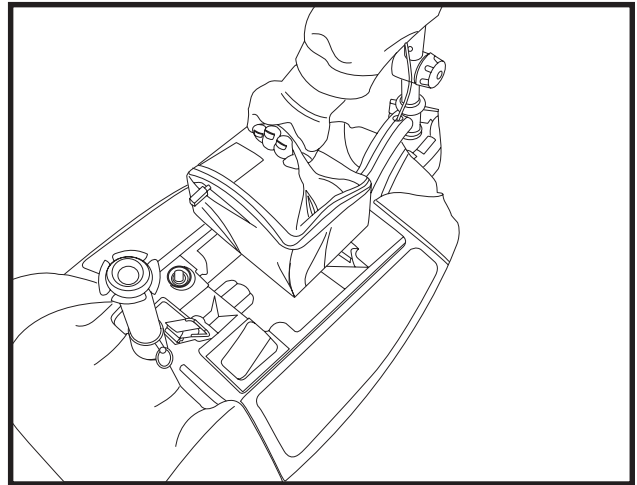

Figure 14. Battery Pack Removal
3. Remove the battery pack from the scooter. See figure 14.